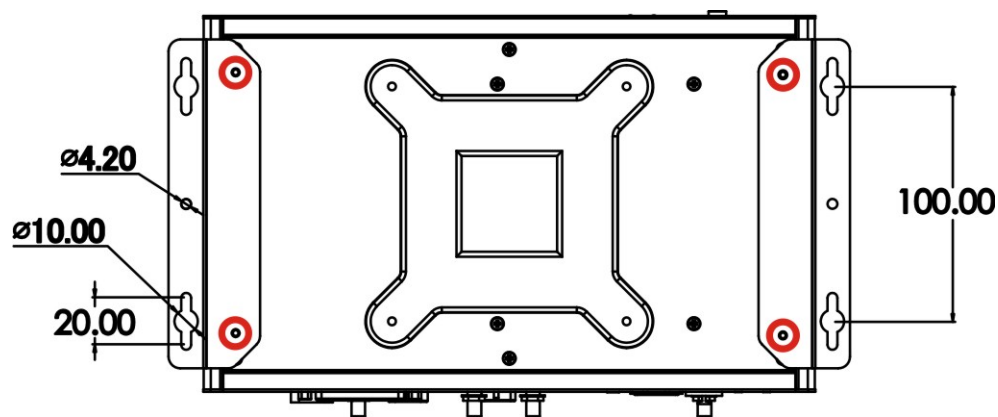

Figure 3-11: Mounting Bracket Retention Screws
Step 3: Secure the brackets to the system by inserting two retention screws (M3*8) into each bracket (**Figure 3-11**).